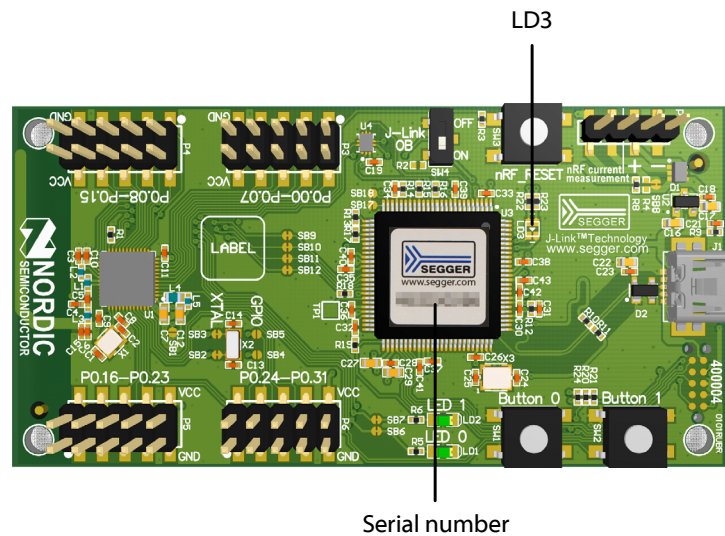

Figure 32 J-Link Lite CortexM-9 serial number location
2. Download and run the J-Link Software and documentation pack for Windows from <http://www.segger.com/jlink-software.html>. The serial number from your SEGGER J-Link hardware is needed, see **Figure 32 on page 41**.